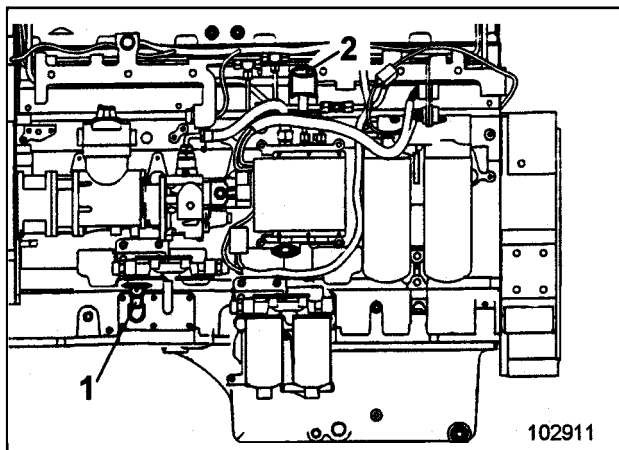
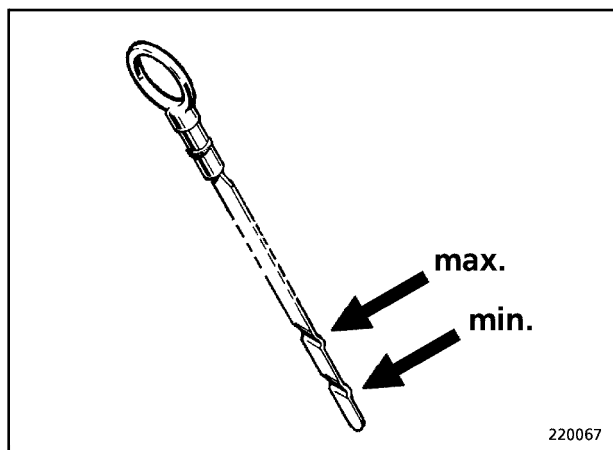

Fig. 3
Fig. 4
- Fill in engine oil through the filler tube (2, Fig. 3) until the oil level reaches the "max" mark (Fig. 4).